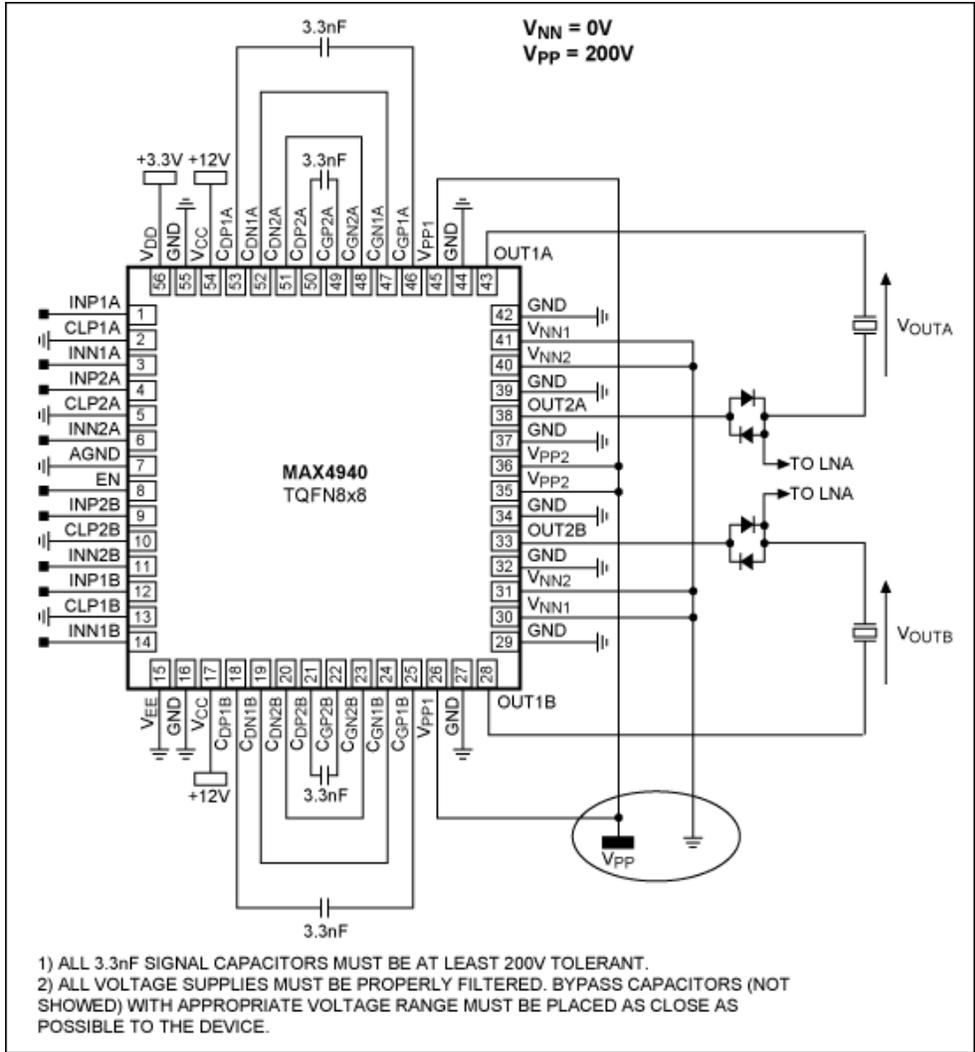
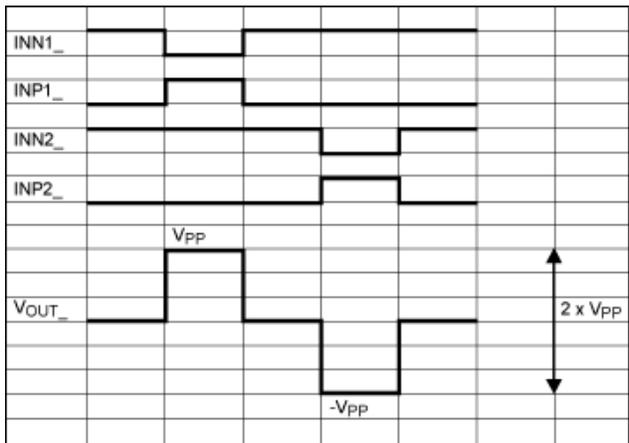

Figure 12. A typical bridge-tied load (BTL) configuration using the MAX490.
Figure 13. Timing diagram of a typical driving scheme in BTL configuration.
**Figure 12** shows a typical BTL application diagram. The starting point is the unipolar configuration (positive in this example). However, the transducer load is now connected between OUT1\_ and OUT2\_. **Figure 13** shows a typical driving scheme. As a result, the amplitude of the excitation signal can reach 2 x VPP, that is 400VP-P.